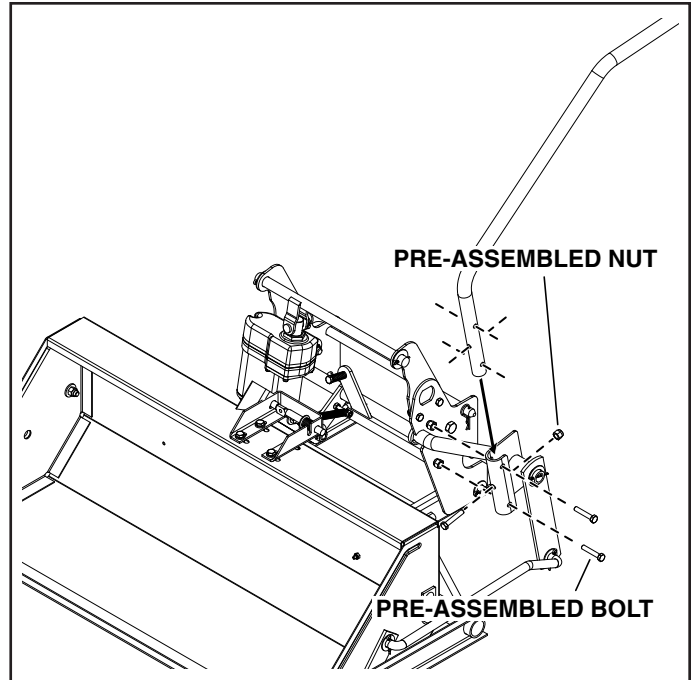

Figure 8.
2. See figure 8. Remove the three pre-assembled bolts and nuts from the tilt bracket assembly. Set aside to use in step 4.
3. See figure 8. Insert the tilt handle extension into the tilt bracket assembly.
4. See figure 8. Reassemble the three bolts and nuts that were removed in step 2. Tighten the nuts.